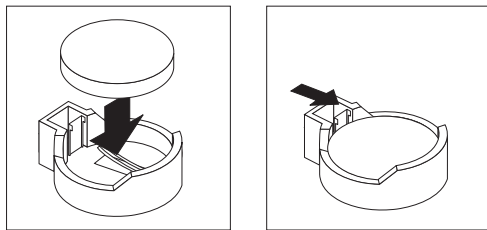

Figure 51. Inserting the new battery
- b. Press the battery down into the socket until it clicks under the battery clip, as shown in Figure 51.